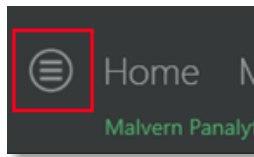

Figure 24: Application Menu button
1. Click on **Application Menu** button (*Figure 24*)